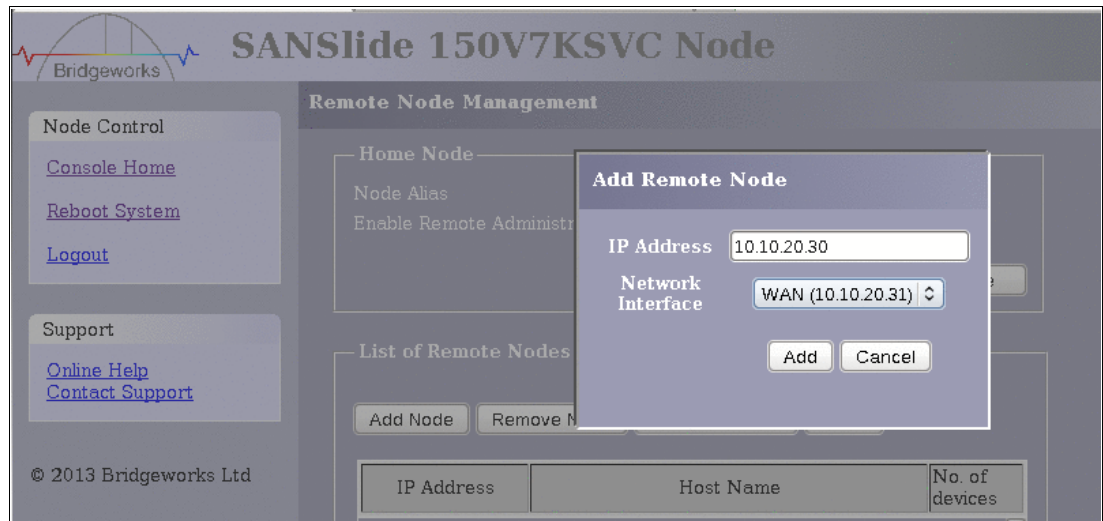

Figure 2-11 Adding the remote node
3. In the Add Remote Node window, enter the static IP Address of the WAN interface for the partner SANSlide 150 node (Figure 2-11).